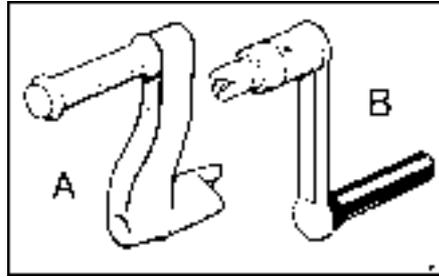

Figure 2.2.1 The Starting Handle
Insert the correct handle, refer to 'A' in 'Figure 2.2.1', into the starting housing.
- 5b. **If using a limited kick-back handle:** Swivel the starting handle housing cover (A) to one side and insert the the correct handle, refer to 'B' in 'Figure 2.2.1', into the housing.